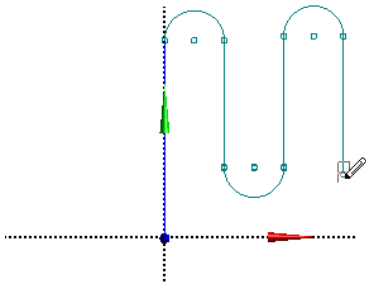

Figure 3-72 Specifying the start point of arc 4
32. Invoke the **Arc by Tangent** tool from the **Draw** toolbox; you are prompted to select an edge or end point of line to specify the start point of arc. Select the end point of line 4 as the start point of arc 4, as shown in Figure 3-72.